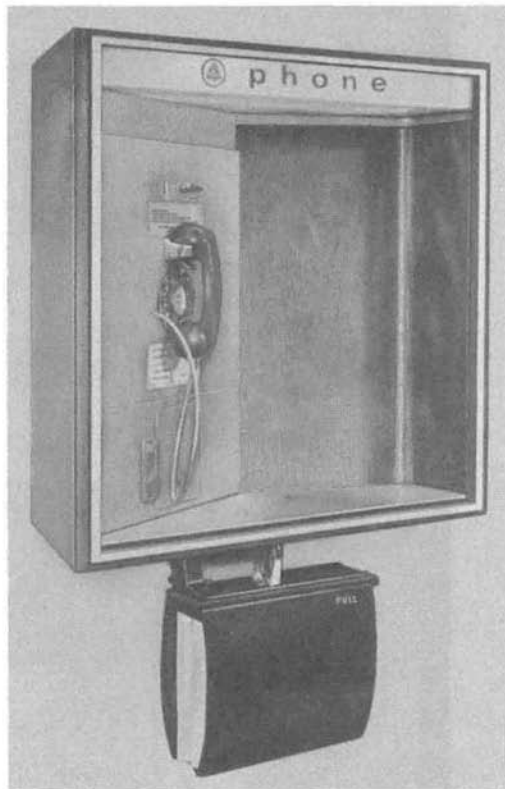

Fig. 1—KS-20194, List 1 Coin Telephone Shelf with
- (a) KS-20030, List 5 directory hanger (Fig. 1)